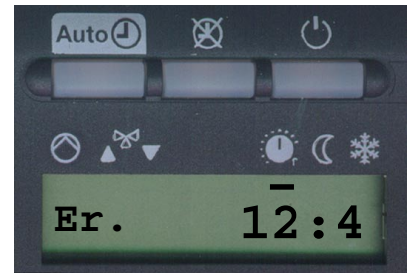

Figure 11
In case of malfunctions, the message "Er" (Error - Figure 11) appears on the display.
- only the error code (e.g. 10 - figure 11).